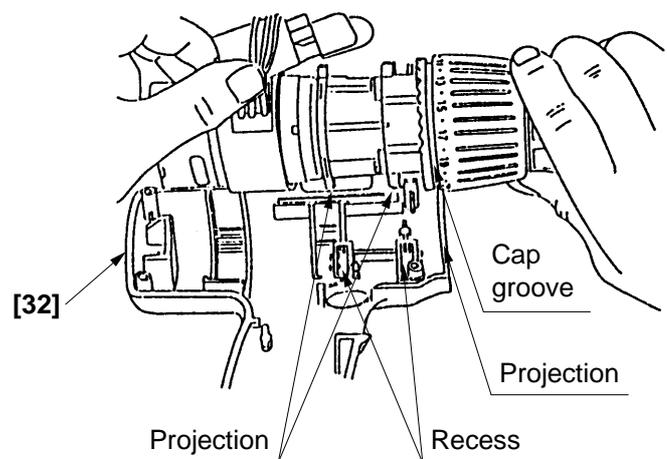

Fig. 18
(g) Install the assembly from (e) into Housing (A) [32]. Note that the projections on the Front Case [9] and the Motor Spacer [25] are engaged in the recess in Housing (A) [32] and the projection on Housing (A) [32] is engaged in the groove in the Cap [4]. (See Fig. 18)